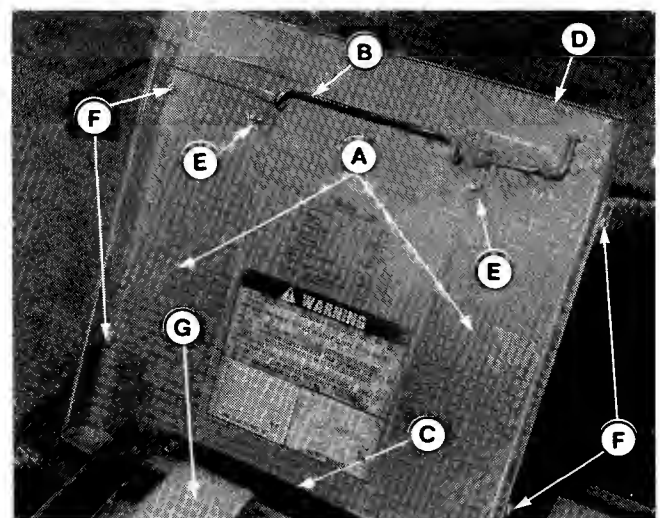
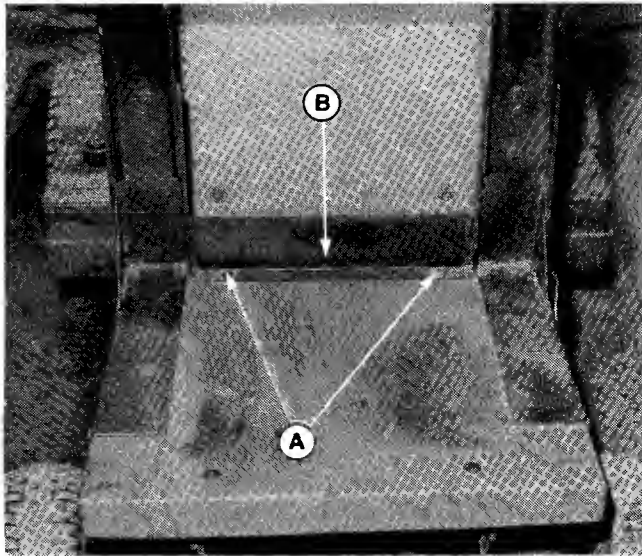

Figure 6.
Figure 7
7. Use only one weight (G, figure 6) when the grass catcher is installed. Place this weight in the center. Also, be sure rear tire pressure is 18 to 22 psi.
8. The hardware for the latch (B, figure 6) and the hinge (C) are used to secure the angle brackets (A) to the bottom of the platform (D). Also the two front bolts (A, figure 7) go through the upper bracket (B). Proceed as follows to install the angle brackets and upper bracket to the platform.
- a. Remove the platform from the hinge by removing the hardware. Remove the latch (B, figure 6) from the platform.
- b. Use this existing hardware to attach upper bracket (B, figure 7), angle brackets (A, figure 6), and latch (B) to the platform. Use the same hardware, except add the two supplied 5/16" washers (E, figure 6) (against angle brackets).
- c. Insert the four supplied 1/4-20 x 3/4" capscrews (F, figure 6) through angle bracket, platform, and upper bracket. Install the 1/4" lockwasher and nuts onto the capscrews.
- d. Attach the platform (D, figure 6) to the hinge (C) with the original hardware.
4. Use two rear weights (G, figure 6) to operate without catcher. Place one on each side.